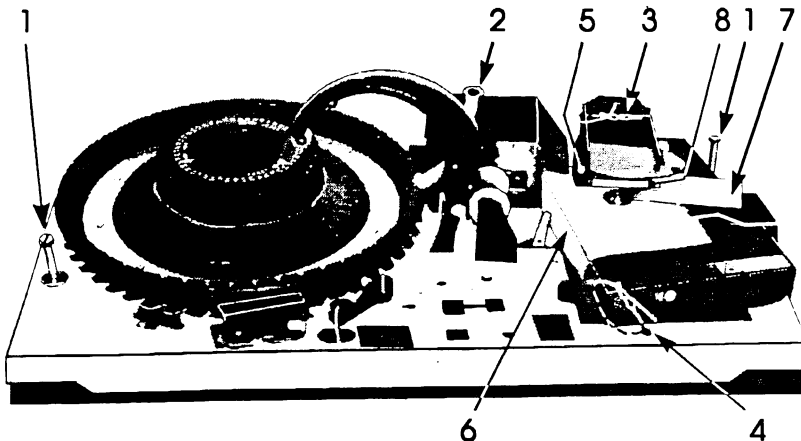

Fig. 1
1. The mechanism platform is fixed to cabinet support with one bolt in front LH side and one bolt back RH side (Fig.1, Pos. 1). Remove both completely using a 13 mm spanner. Possibly you can use the tool being fixed to the lid of the gear box (Fig.1, Pos. 2).
2. Remove plastic string at the pivot point of the pressure arm (Fig.1, Pos. 3).
3. Remove plastic holder securing CD player chassis (Fig.1, Pos. 4).
4. Remove foam (Fig.1, Pos. 5), foam foil (Fig.1, Pos. 6) securing laser head in CD player and instruction plate (Fig.1, Pos. 7).
5. Remove foam between magnetic pressure disc and black plastic cover (Fig.1, Pos. 8)